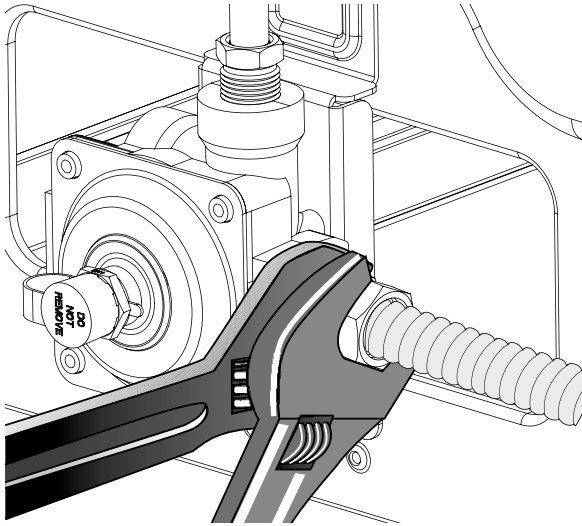

Fig. 10
- c. Tighten the gas supply fitting and/or appliance conduit to flare union adaptor on the right side of the pressure regulator (refer to Fig. 10) using **NO MORE THAN 15ft./lbs.** of torque. Be sure to stabilize the 1/2" flare union adapter with an adjustable wrench before tightening the gas supply fitting and/or appliance conduit.